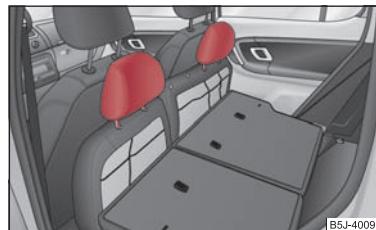

Fig. 54 Rear seats: Inserting head restraints in the seat cushions
- The head restraints can be inserted into the relevant holes of the folded forward seat cushions ⇒ fig. 54.